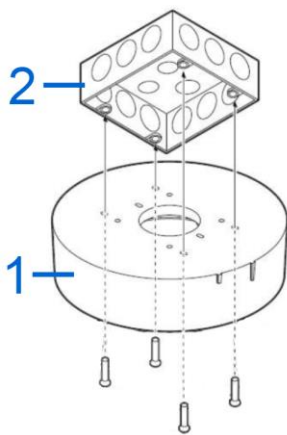
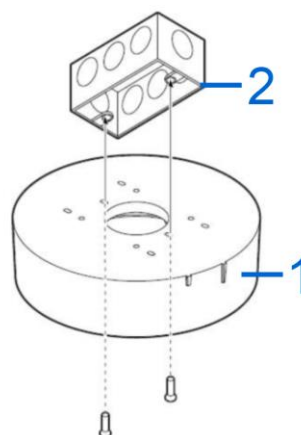

Figure 4
Figure 5
Electrical box installation: Align the four holes on the junction bracket mount (1) (Figure 4) with the four holes on the mounting surface or '4-11/16" ' electrical box (2) (Figure 4) **or** align the two holes on the junction bracket mount (1) (Figure 5) with two holes on the single gang electrical box (2) (Figure 5).